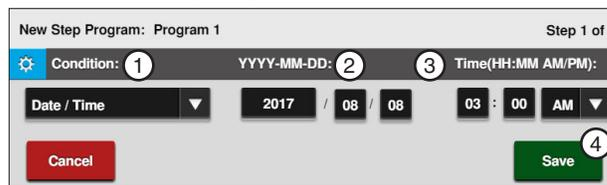

Figure 121-2 1. Date/Time Condition 2. Date 3. Time 4. Save
- a) Select the **Choose Condition** drop-down menu and choose **Date/Time**. Refer to Figure 121-2.